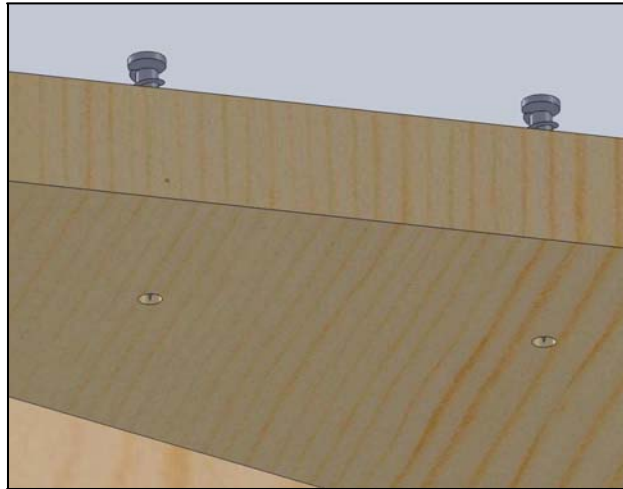

Figure 10: (1) Marking where the edge of the gusset sits.
- B. Using a **Philips Head Screw Driver** start to run #6 1 1/4" wood screws into the pilot holes in the back piece to attach gussets. Place a screw into the pilot hole. Then using the screw driver, start twisting the screw in a clockwise direction. Continue this until the screw tip almost pokes out the other side of the board as shown in Figure 10.